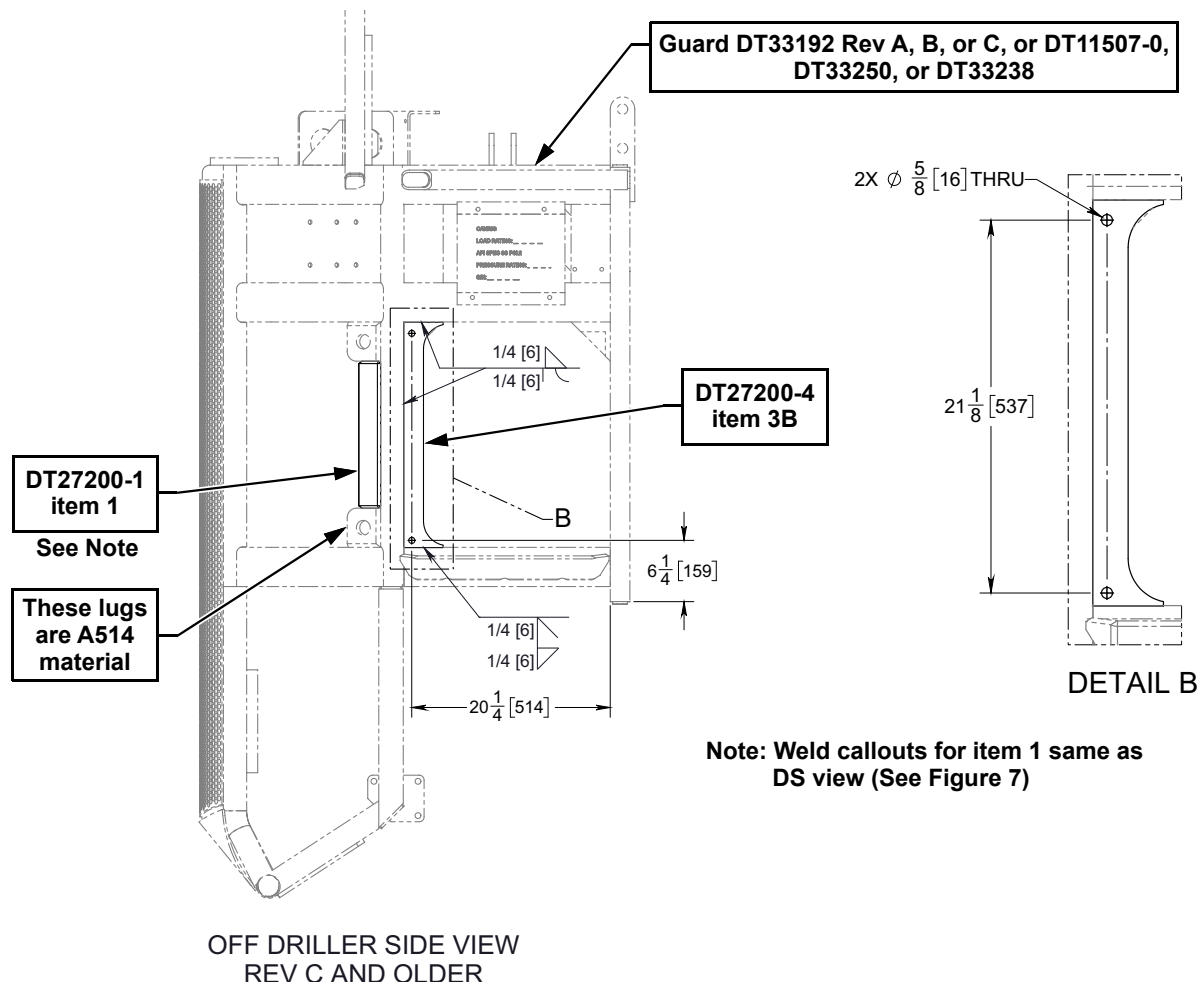

Figure 11: Plates installed on guard (ODS)
2. Replace with plate P/N: DT27200-4 (item 3B) as shown in Figure 11 on page 11. **Note:** Outside of item 3B is flush with outside of plate/HSS above and below them.
3. Drill 5/8" holes as shown in Detail B in Figure 11 on page 11.